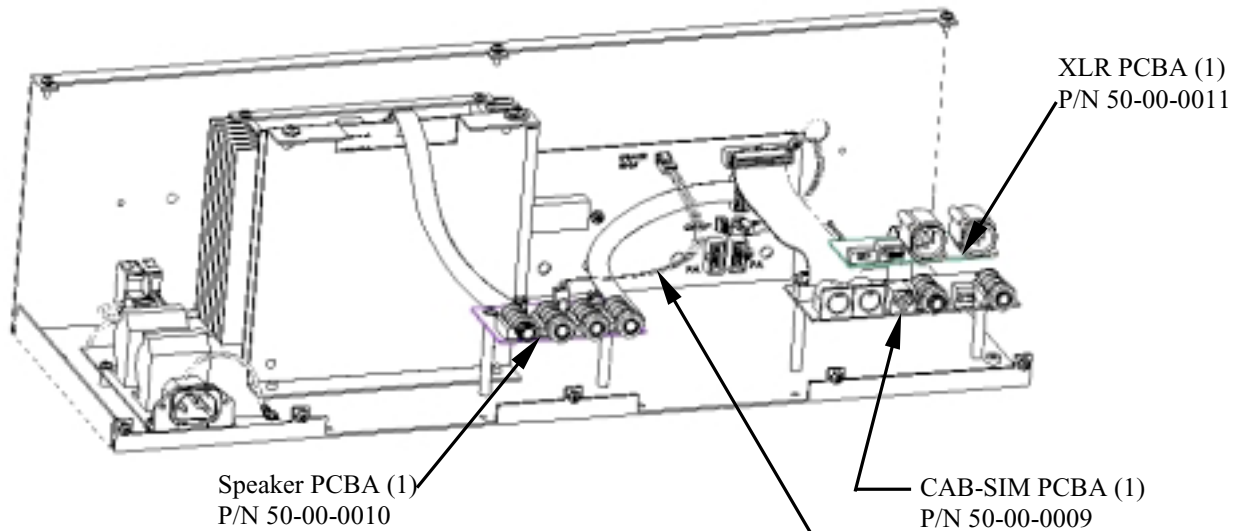

Figure 12 (rear view)
- a. Mount Midi-Cab/XLR PCBA and Speaker Output PCBA onto the 2" standoffs. See figure 12.
- b. Install Output to Main Cable assembly. The Main PCBA header is labeled "Speaker Sense". See figure 12 and 13.